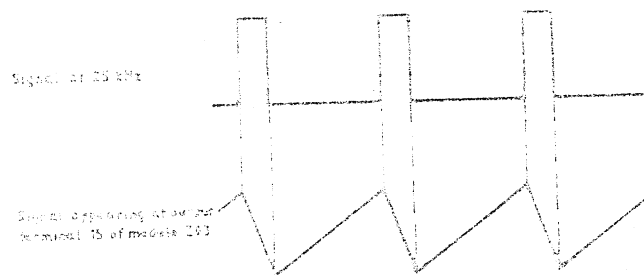

Fig. 9 Sawtooth Waveform from Phase Comparator
- 88 Figure 9 below shows the sawtooth waveform, derived from the 25 kHz reference signal, that appears at pin 15 of Z03.